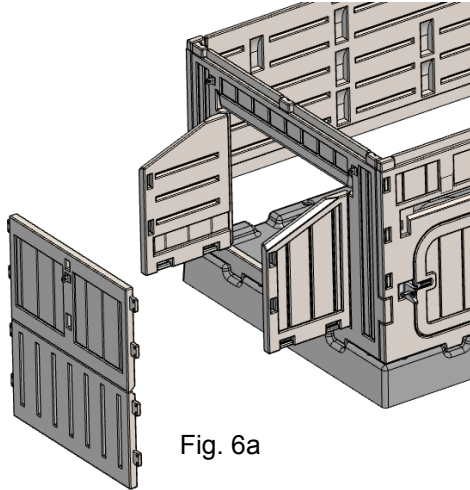
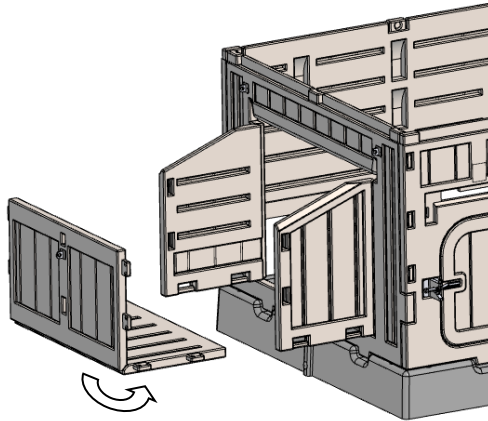
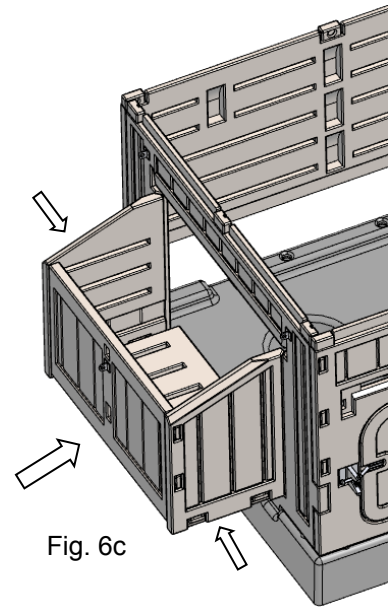

Fig. 6a
Fig. 6b
Fig. 6c
Step 6: Assemble the Nest Box to the Nest Side Wall by first folding the two flaps on the Nest Side Wall outward (Fig. 6a). Then fold the Nest Box panel 90 degrees (Fig. 6b) and place it between the flaps, aligning the tabs on the Nest Box with the slots on the Nest Side Wall (Fig. 6c). Now, firmly apply pressure to both the flaps until all eight tabs snap into place.